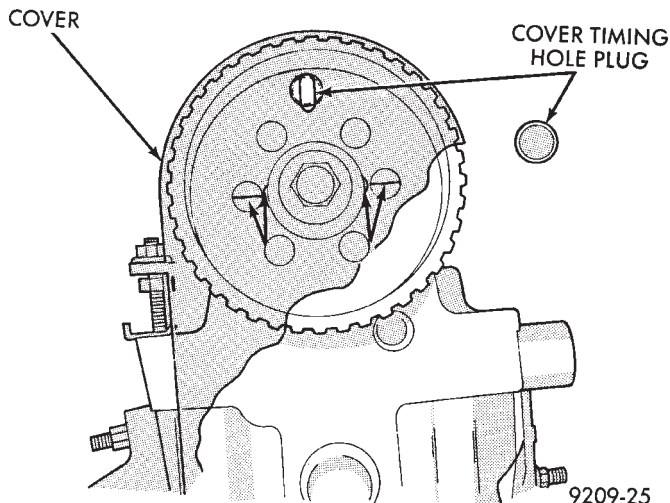

Fig. 12 Camshaft Timing
- (2) Turn camshaft until arrows on hub are in line with No. 1 camshaft cap to cylinder headline. Small hole (arrow Fig. 12) must be in vertical center line.
- (3) Install timing belt.
- (13) Install fasteners holding cover to cylinder head and block. Tighten fasteners to 4 N•m (40 in. lbs.) torque.
- (14) Valve Timing Check; (timing belt cover installed). With number one cylinder at TDC, small hole in sprocket must be centered in timing belt cover hole (Fig. 12). If hole is not aligned correctly perform procedure again.
- (15) Install spark plugs.